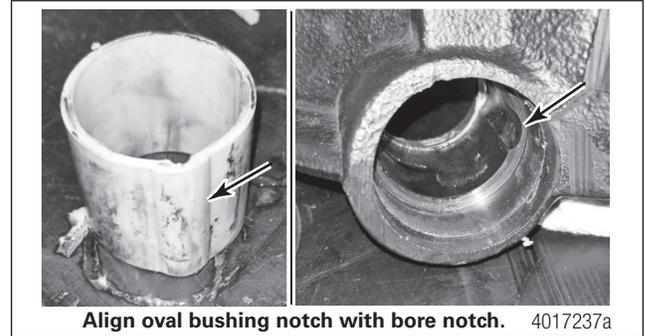

Fig. 8.14 Oval Bushing Installation
STEP 1 - Align the new oval plastic bushing notch with the corresponding notch in the housing. Figure 8.14.